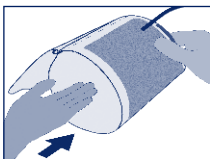
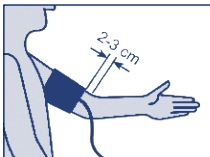

Figure 1
Figure 2
- Push the cuff onto the arm until the lower edge of the cuff is 2-3 cm above the crook of the arm (Figure 1, Figure 2).